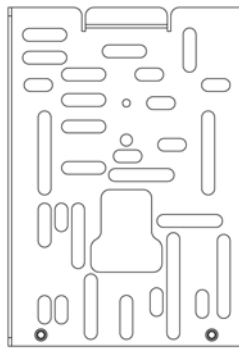

Figure 4. Universal Wall Bracket
3. Adjust the universal wall bracket against the old thermostat position, such that any two slots on the wall bracket match the existing two screw holes on the wall, and the large center opening is aligned with the air tube(s). The universal wall bracket is shown in Figure 4.